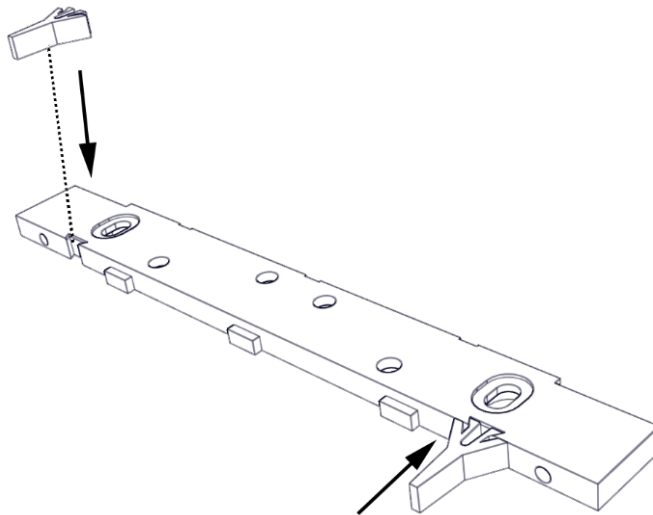

Figure 4. Inserting the Template Pins
3. PINCH and INSERT the template pins flush into the dovetail slots of the mounting bracket (see Figure 4, "Inserting the Template Pins").